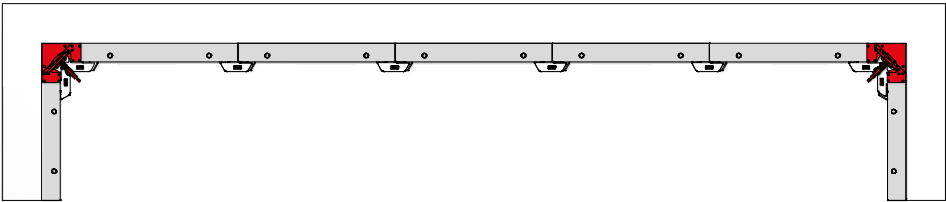

Fig. 57.1
1. Remove the M assembly locks connecting the stripping corners to the panels (Fig. 57.1).